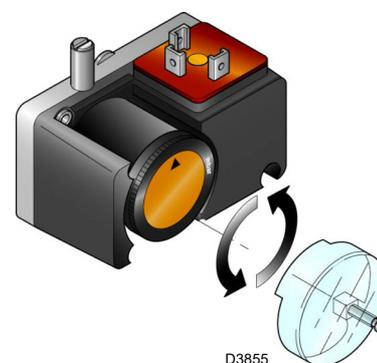

Fig. 35
- Adjust the pressure switch for the valve leak detection control device (PVP kit)(Fig. 35 at page 33), if present, according to the instructions supplied with the kit itself.
Adjust the pressure switch for the valve leak detection control device (PVP Kit) (Fig. 35), if present, according to the instructions supplied with the Kit itself.